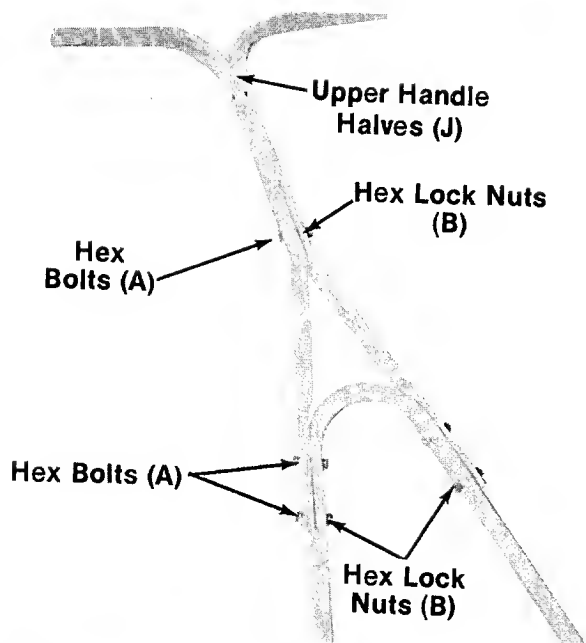

FIGURE 5.
8. Assemble the upper handle halves (J) to lower handle using five hex bolts (A) and lock nuts (B). Only tighten finger tight. See figure 5.